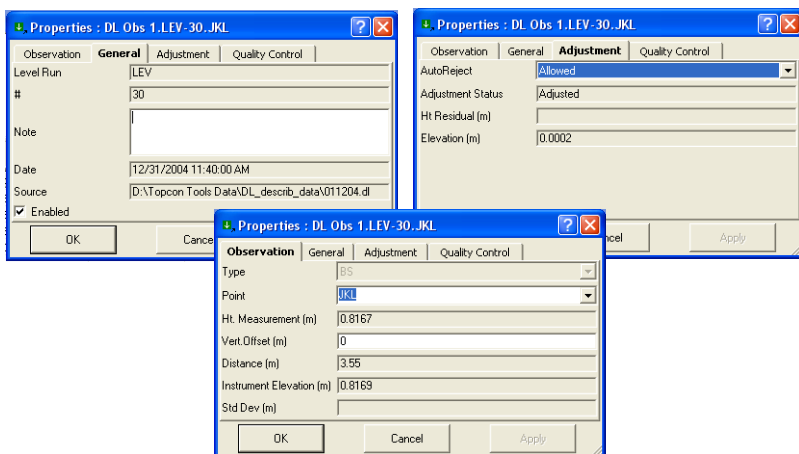

Figure 5-121. General and Adjustment Properties
2. Edit the *Note* in the *General* tab, *AutoReject* in the *Adjustment*, the *Point* and *Vertical Offset* in the *Observation* tab as needed (Figure 5-121).
2. View or edit *General* tab fields (Figure 5-121 on page 5-86). Edit the *Point To*, *Distance*, *Notes*, and *#* parameters as needed.